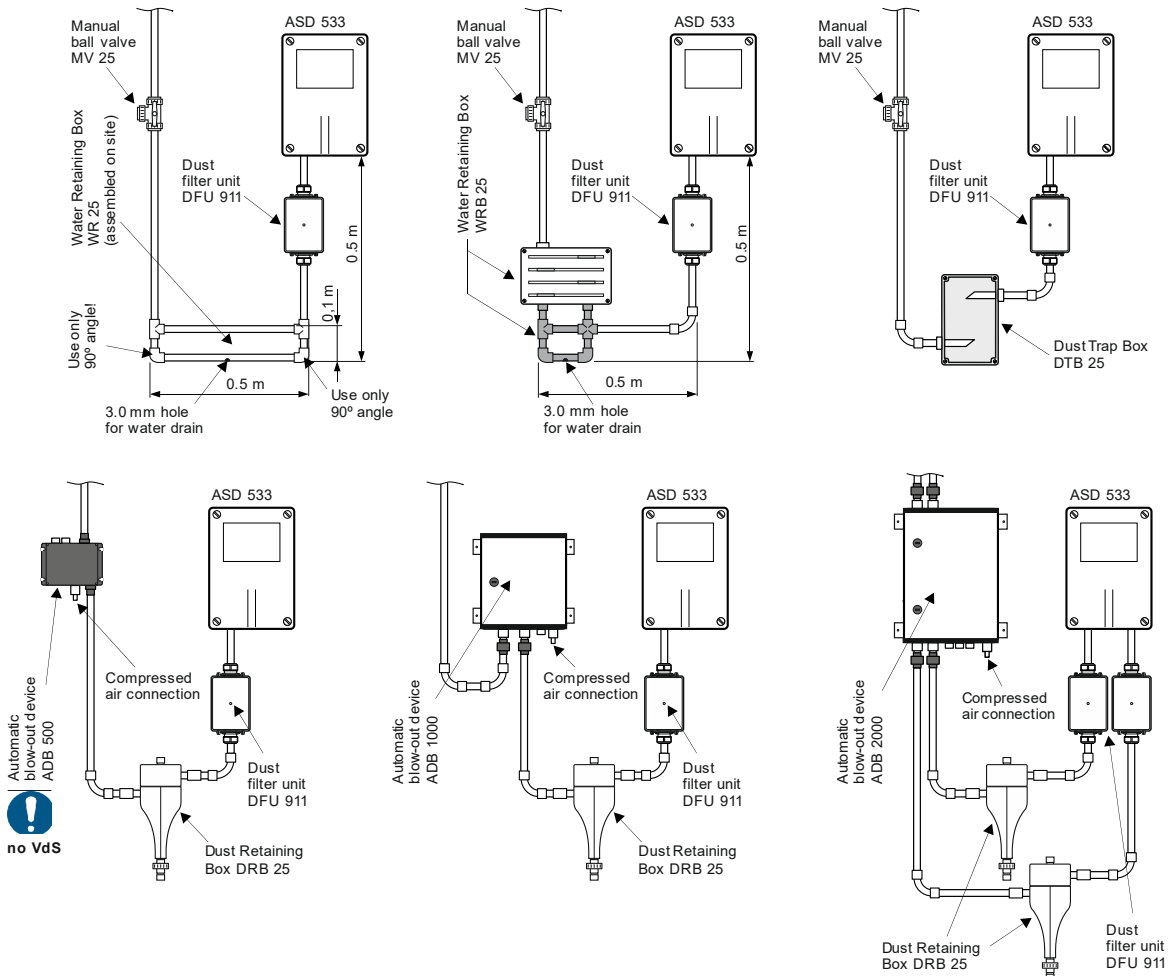

Fig. 29 Mounting accessory parts
- The mounting positions for the water retaining box, dust trap box and dust retaining box must be observed as indicated in Fig. 29.